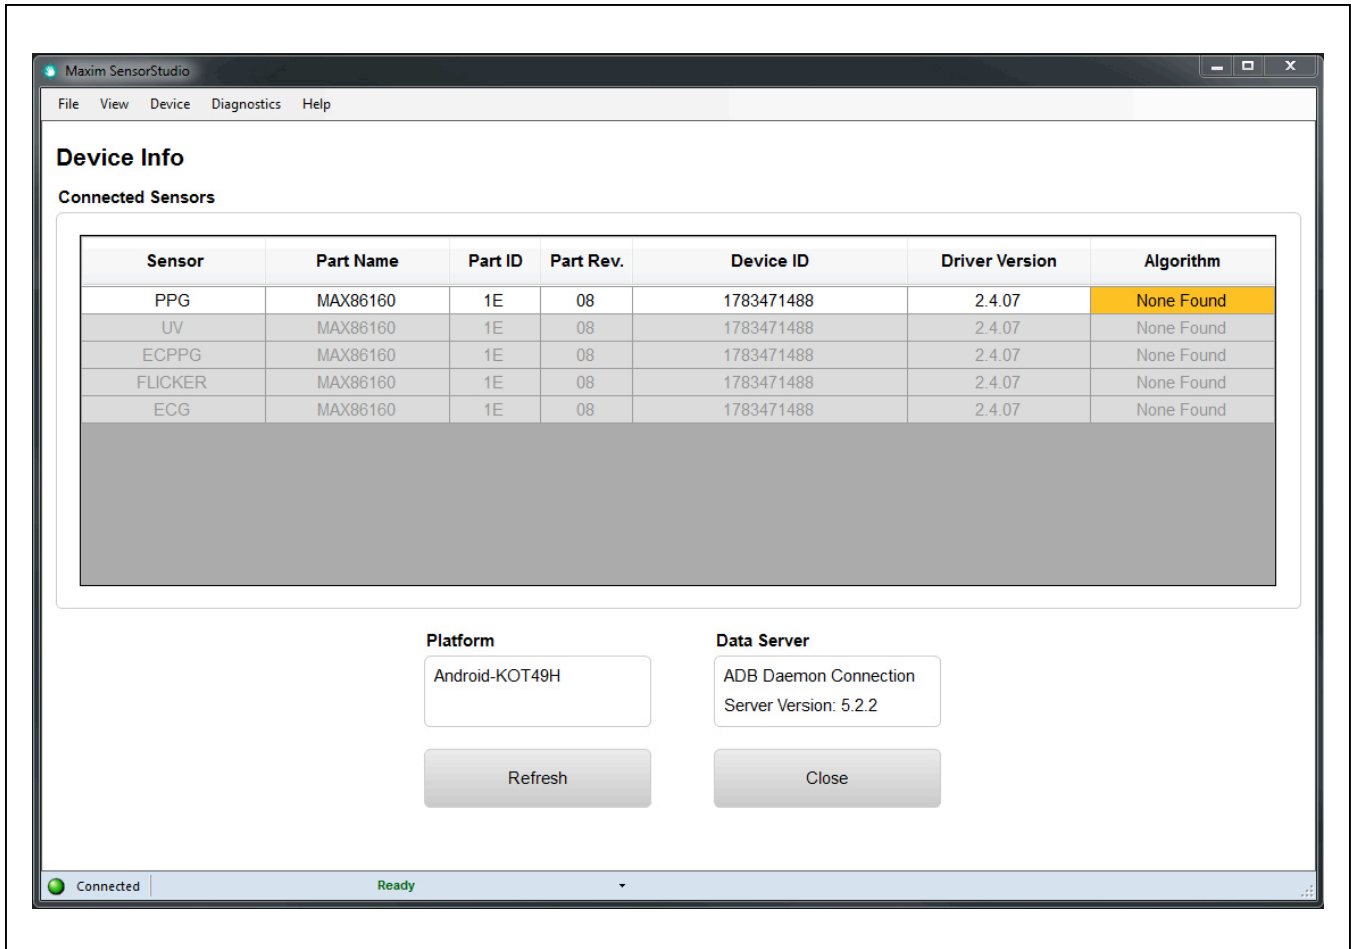

Figure 5. Maxim SensorStudio GUI
- 7) Open SensorStudio5 and verify that the EV kit is connected by observing the status bar at the lower-left corner of the GUI, as shown in Figure 5. If “Disconnected” is shown, please double-check the board’s power supply, USB connection, and press “Refresh” to try.